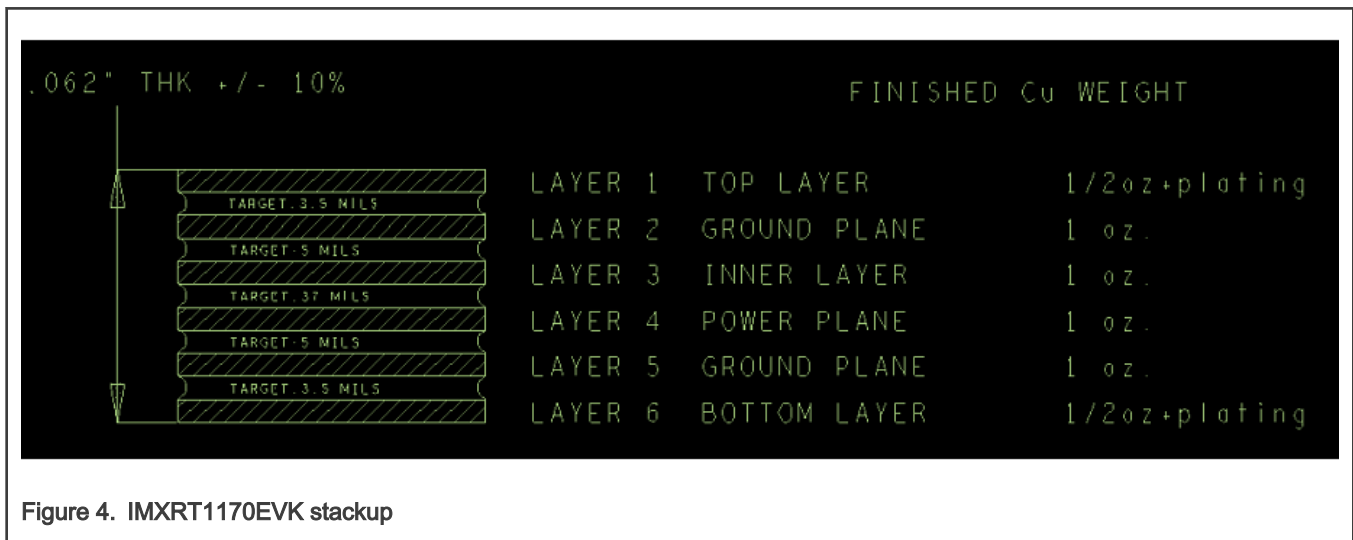

Figure 4. IMXRT1170EVK stackup
- The recommended stackup is six layers, with the layer stack shown in Figure 4. The left-hand image shows the detail provided by NXP inside the fabrication detail as a part of the Gerber files. The right-hand side shows the solution suggested by the PCB fabrication company for the requirements. Figure 5 shows the IMXRT1170EVK PCB stackup implementation: